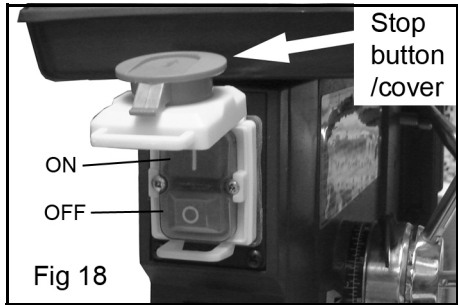

Fig 18
8. When completely satisfied that the setup is correct, lower the chuck guard into position and switch the machine on by pushing the 'I' button. To switch off, push the 'O' button, see Fig 18.